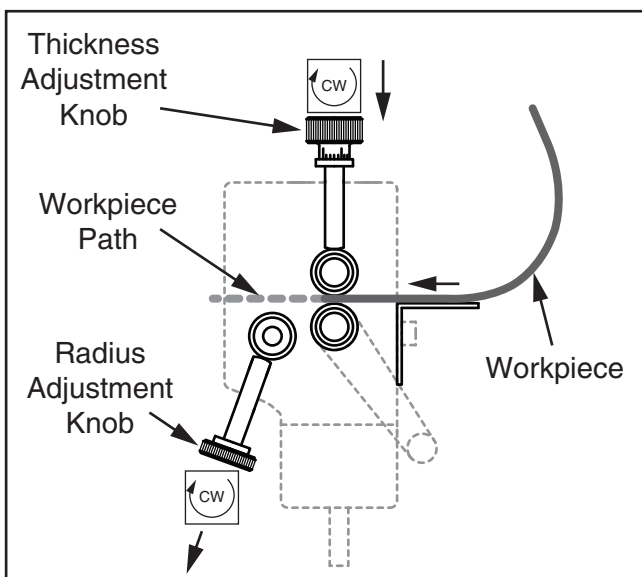

Figure 7. Workpiece positioned between the upper and lower rollers.
1. Rotate the radius adjustment knob clockwise to lower the rear roller below the workpiece path, as illustrated in **Figure 7**. This will prevent the rear roller from bending a curve in the workpiece as it is fed through the slip roll.
2. Use the thickness adjustment knobs to adjust the height of the upper roller so the workpiece fits between the upper and lower rollers, as illustrated in **Figure 7**.